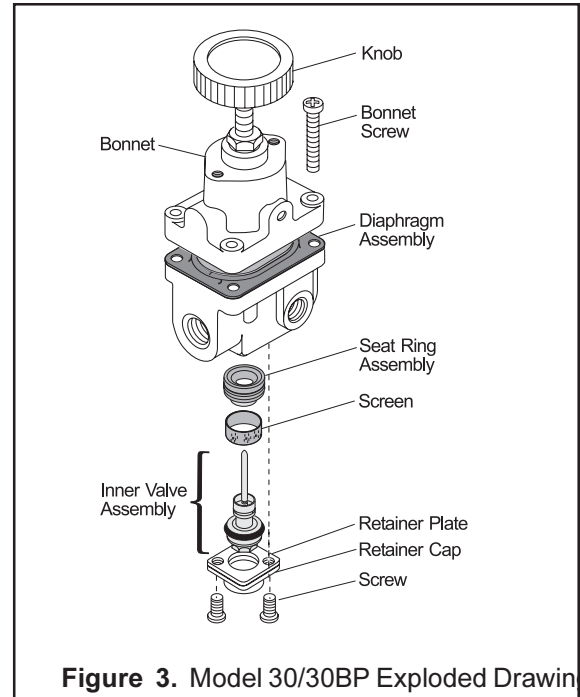

Figure 3. Model 30/30BP Exploded Drawing
3. Remove the Inner Valve Assembly. For more information, see Figure 3.
5. Replace the assembly carefully. For more information, see Figure 3.